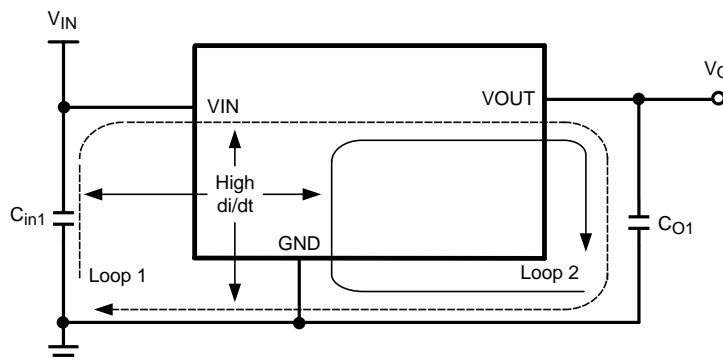

Figure 53.
From an EMI reduction standpoint, it is imperative to minimize the high di/dt paths during PC board layout as shown in Figure 53. The high current loops that do not overlap have high di/dt content that will cause observable high frequency noise on the output pin if the input capacitor (C_{IN1}) is placed at a distance away from the LMZ23603. Therefore place C_{IN1} as close as possible to the LMZ23603 VIN and PGND exposed pad. This will minimize the high di/dt area and reduce radiated EMI. Additionally, grounding for both the input and output capacitor should consist of a localized top side plane that connects to the PGND exposed pad (EP).